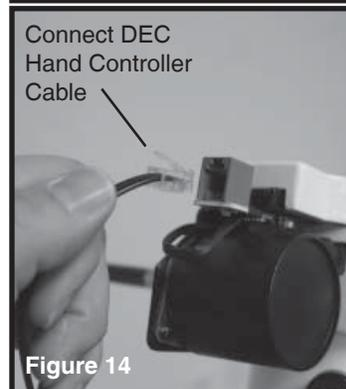

Figure 14
1. Locate the hand controller and note the two cables at the bottom. Connect the cable labeled DEC to the connector attached to the DEC motor assembly. See Figure 14.